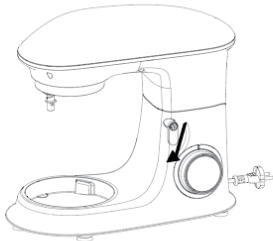

FIG1
1. In order to lift the arm, clockwise rotation the rise knob (2) . The arm will now move upwards. (FIG1)